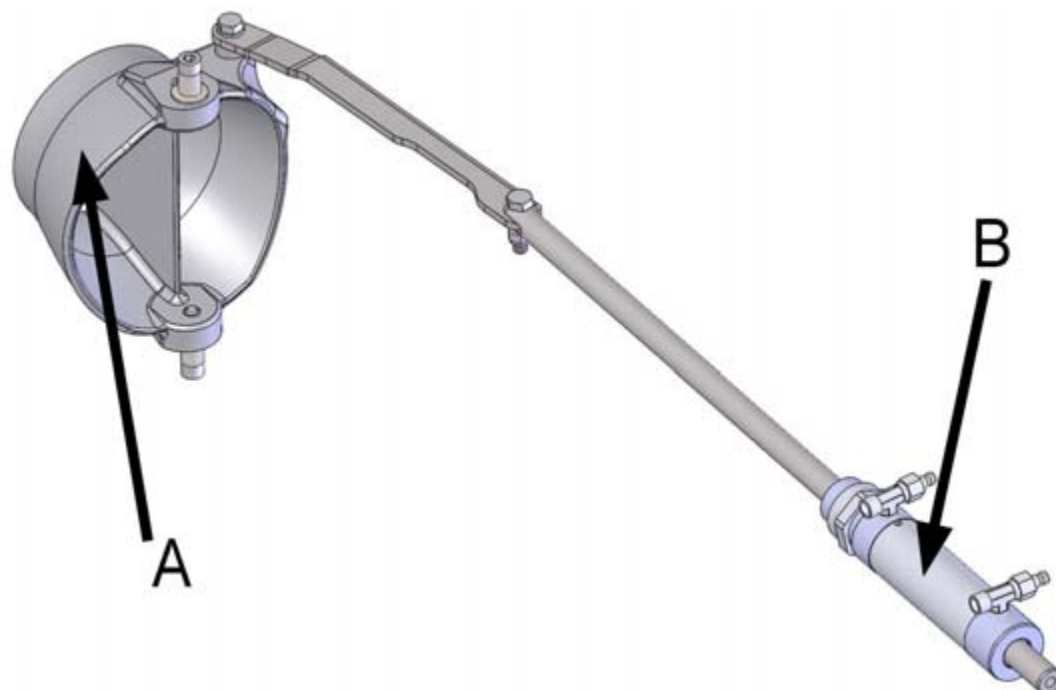

Figure 75. Steering nozzle and actuating cylinder
1. Ensure that the stator seal is undamaged and the centring rods are in place either in the stator or the impeller duct (figure 75).